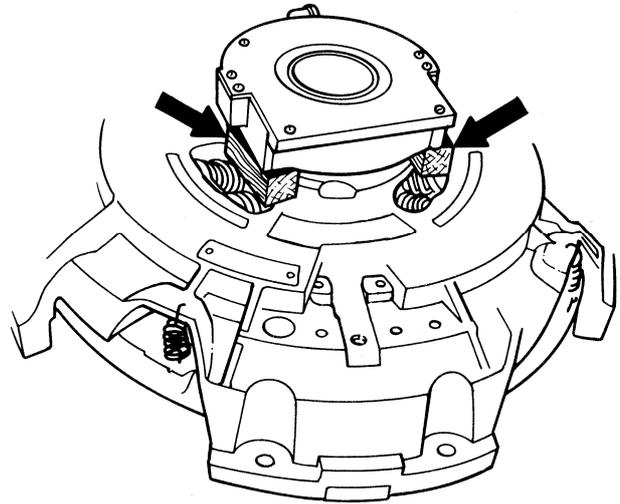

Figure 160 — Installing Wooden Blocks
- h. Install the assembly in the press and support the clutch housing to allow movement of the release bearing sleeve. Apply pressure to the sleeve retainer and install two 19 mm (0.784 in.) wooden blocks between the release bearing and clutch housing (see Fig. 160).